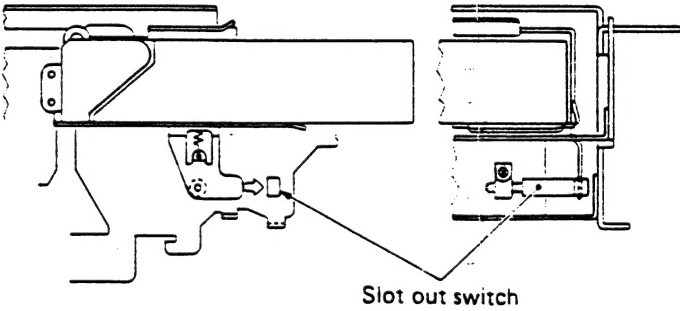

Fig. 3-1-9
4. The cassette holder horizontally moves and reaches close to the stop position, the slot-out switch is turned on by the lower end of the cassette holder. (Fig. 3-1-9)